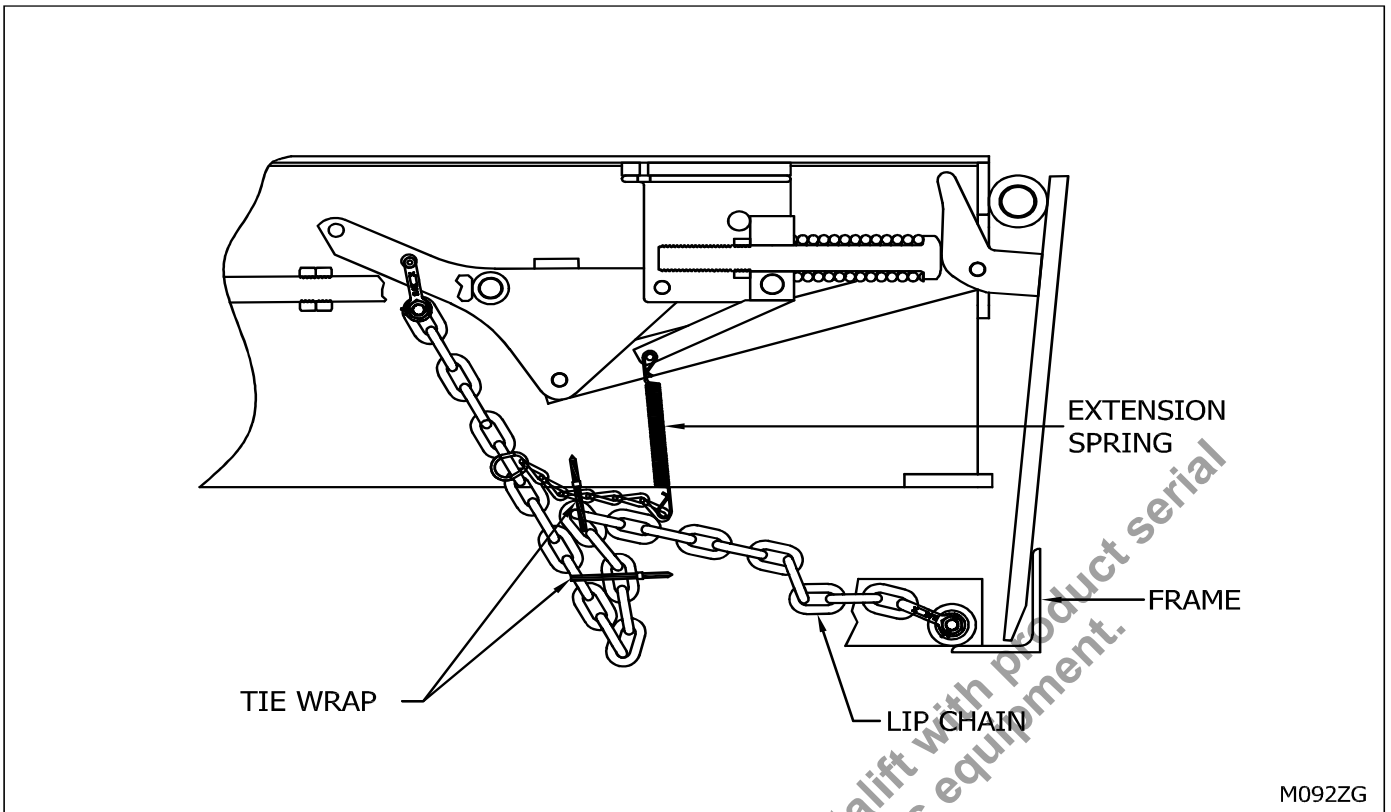
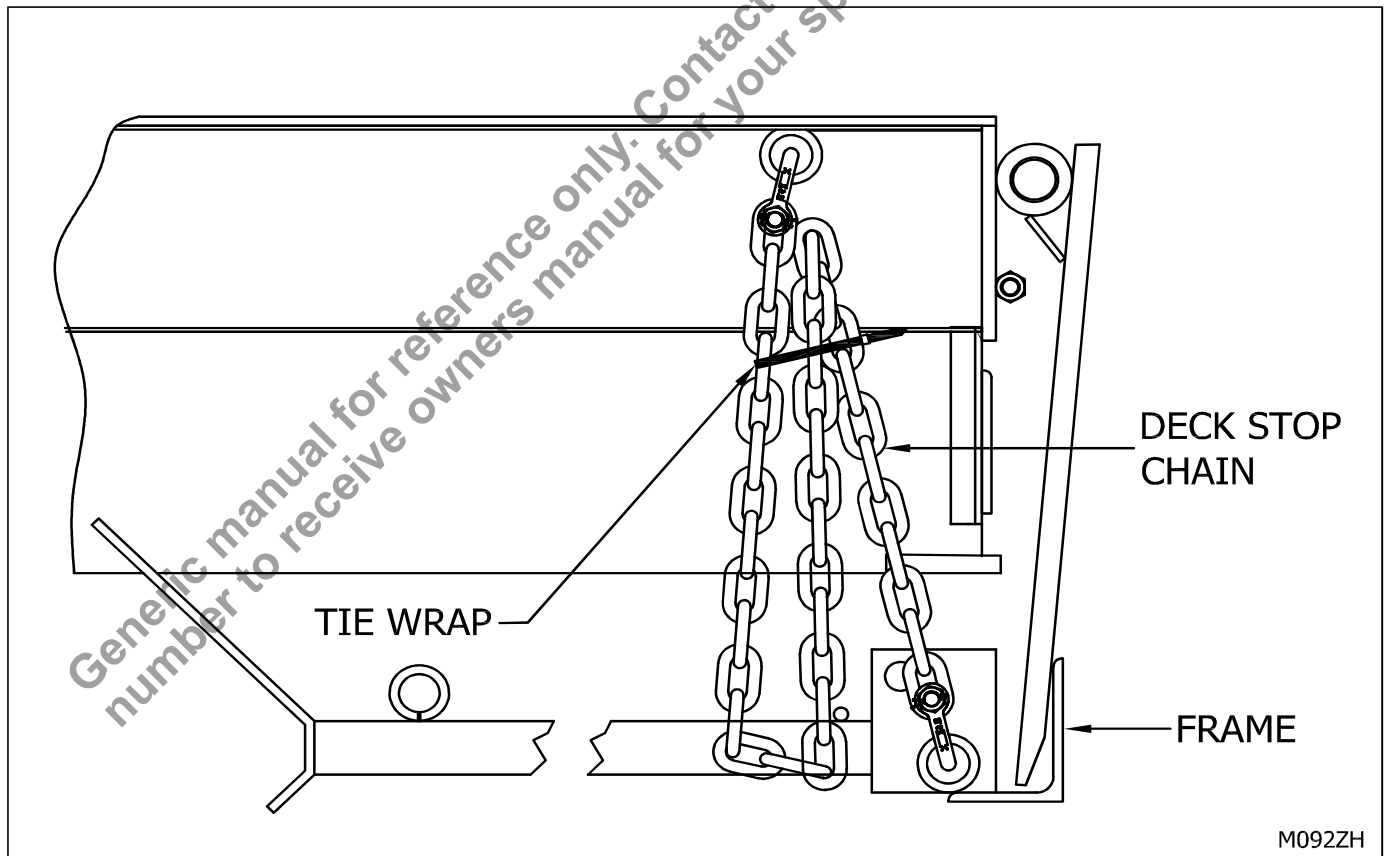

Figure 7c: Lip Chain tied up for shipping
Figure 7d: Deck stop chain tied up for shipping
7. ___ Both the Lip chain and Deck stop chain have been tie wrapped for shipping purpose. The raising of the dock leveler should break the tie wraps free. Visually ensure that all tie wraps have broken free and are removed from the chains. Failure to do so will impede the proper functioning of the dock leveler (see "Figure 7c: Lip Chain tied up for shipping" on page 13 and "Figure 7d: Deck stop chain tied up for shipping" on page 13).